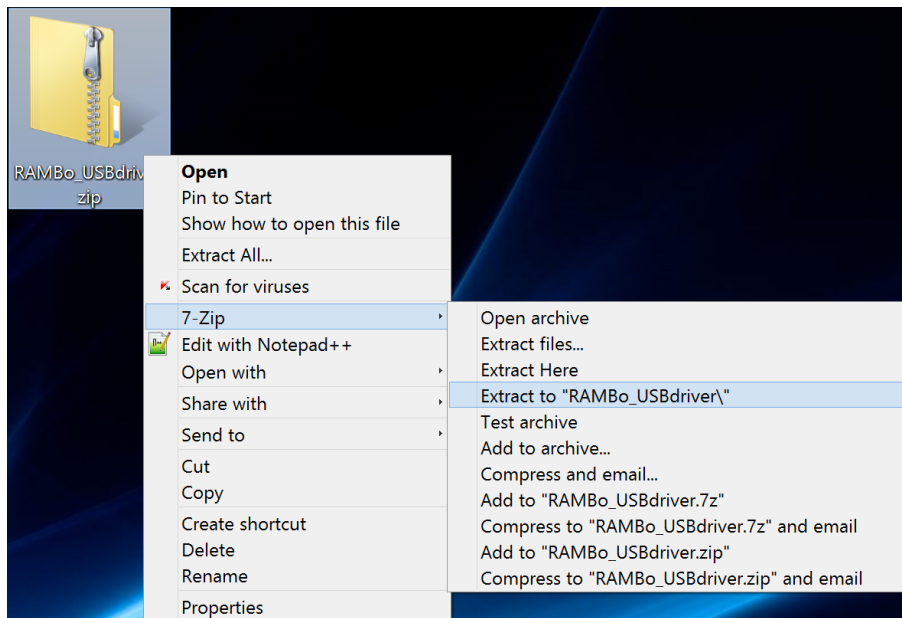

Figure 2.1: Unzip the driver file using 7-Zip
2. Unzip the compressed file using 7-Zip or other archive programs. (Figure 2.1)